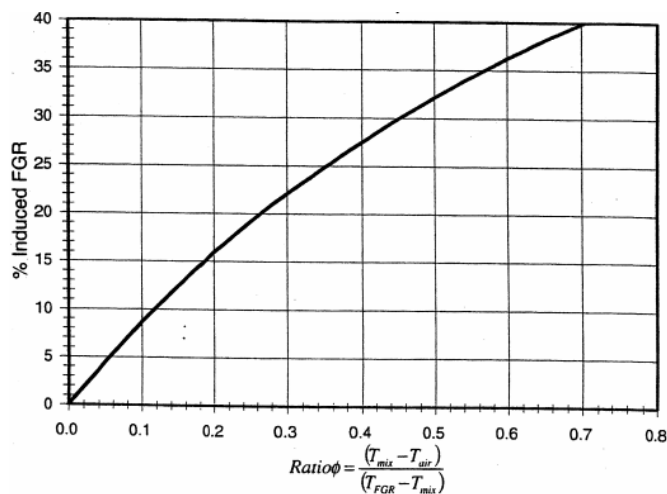

Figure 8: percent Induced FGR as function of Temperature Ratio
4.5.5 To simplify this calculation we have provided a graph (Figure 8) where the temperature ratio is plotted against the % IFGR. After calculating the temperature ratio and locating that value on the X-Axis, move vertically to the plotted curve then read the % IFGR value across the graph on the Y-Axis. Excess air (% O₂) in the stack or fuel type have very little effect on the calculated % IFGR. Software for this calculation can be provided by Power Flame through our Customer Service Department (620-421-0480 or CSD@powerflame.com).